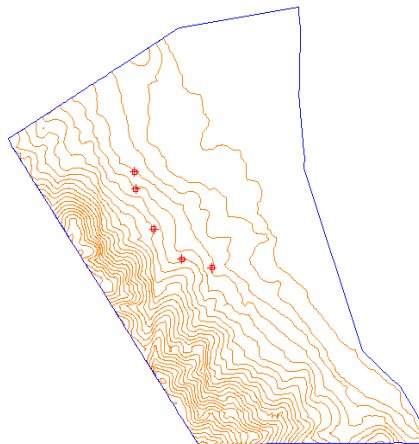

Figure 2-67 Surface with **COGO** points
5. Choose **OK** to apply the selected settings and exit the dialog box. The surface with the **COGO** points is displayed, as shown in Figure 2-67.